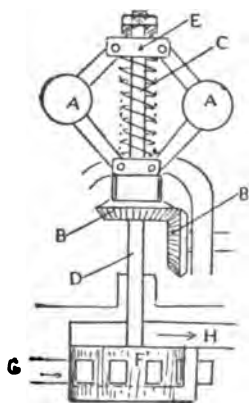

Fig. 4
A very different form of governor which may be employed with any method of control, but is especially adapted to throttling, is illustrated in Fig. 4. With an increase of speed above normal the balls (A, A) swing outward and compress the spring (C) and push down the spindle (D) by means of the collar (E). As the spindle slides down the valve (F) moves down also, thus slowly cutting off the charge of fuel entering through the openings (G, H).